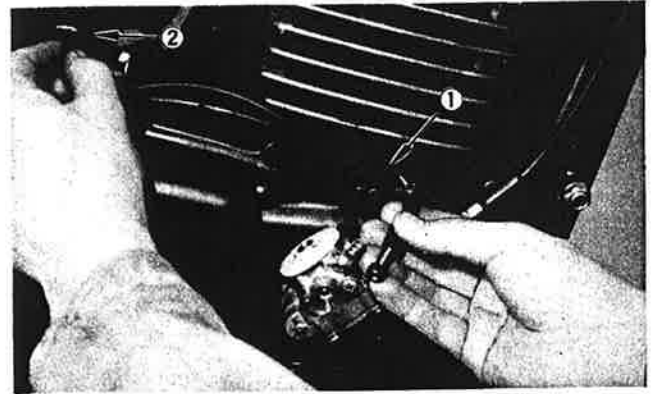

Fig. 3-1-8
3. Remove oil pump cover. (Fig. 3-1-8)